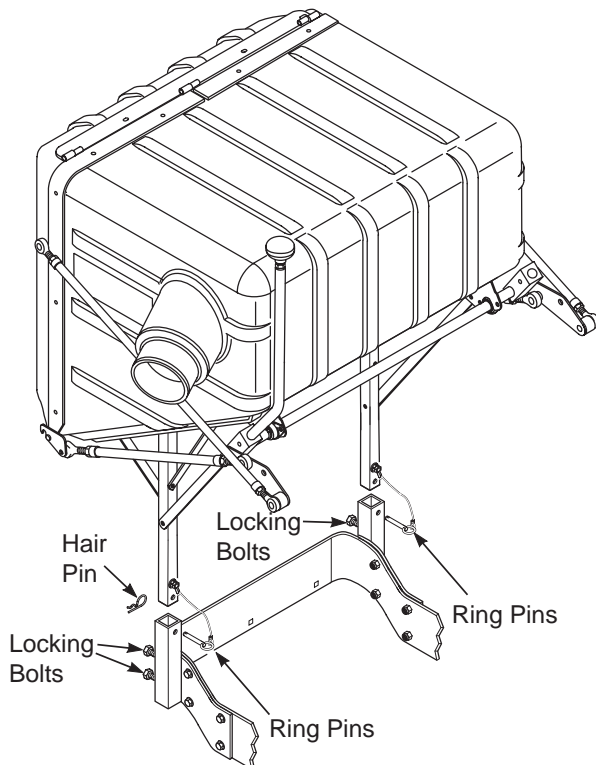

FIGURE 3-5
12. With help from an assistant, install the hopper assembly to the machine by installing the mounting post into the hopper mounting brackets and secure with the ring pins and hair pins. Tighten the bolts and jam nuts. See Figure 3-5.